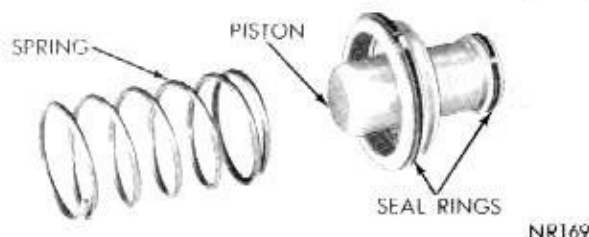

Fig. 89—Accumulator Piston and Spring
(1) Clean mating surfaces and inspect for burrs on both the transmission case and valve body steel plate.
(2) Install accumulator piston in transmission case and place piston spring on the accumulator piston (Fig. 89).
(3) Insert parking lock rod through opening in rear of case with the knob positioned against the reaction plug and sprag. Move front end of rod toward center of transmission while exerting rearward pressure on rod to force it past the sprag (rotate output shaft if necessary).
(4) Place valve body manual lever in **LOW** position. Place valve body in its approximate position in the case, connect parking lock rod to manual lever and secure with E-clip. Align valve body in the case, install retaining bolts finger tight.
(5) With neutral starting switch installed, place manual valve in the neutral position. Shift valve body if necessary to center neutral finger over the neutral switch plunger. Snug bolts down evenly, then tighten to 100 inch-pounds.
(6) Install gearshift lever and tighten clamp bolt. Check lever shaft for binding in the case by moving lever through all detent positions. If binding exists, loosen valve body bolts and re-align.
(7) Install flat washer and throttle lever, then tighten lever clamp bolt.
(8) Adjust kickdown and low-reverse bands.
(9) Install oil pan, using a new gasket. Tighten pan bolts to 150 inch-pounds.